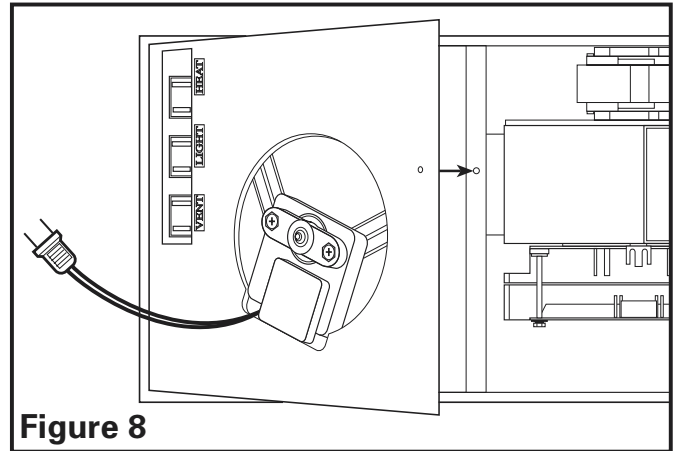

Figure 8
1. Reinstall the fan's venturi by holding it at approximately a 45 degree angle, hook the two tabs on the venturi into the slots on the housing and secure in place by tightening the venturi screw. Rotate the blower wheel by hand to ensure it spins freely (**Figure 8**).